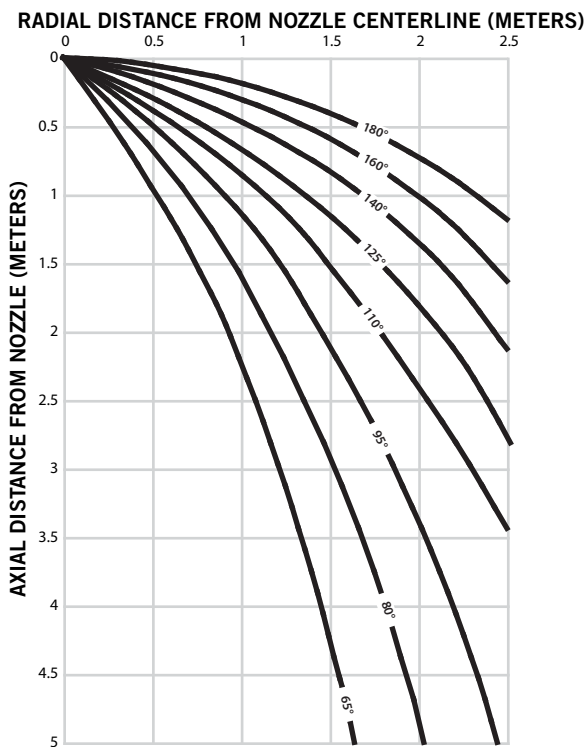
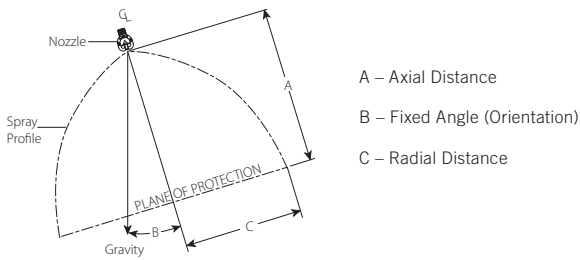

Figure 2 - Design Spray Profiles (All K Factors)
Figure 3 - Spray Coverage Variables
- Figure 2 illustrates the radial distance at various heights based upon testing in the pendent position at 10 psi, 20 psi, and 60 psi / 69 kPa, 138 kPa, and 414 kPa discharge pressure (see Figure 3, Variable C).
- For FM only installations, use a recommended tolerance of +/- 2 ft [0.6 m] from nominal for the radial distances shown (x-axis) in Figure 2 for all fixed angle orientations. Use a recommended spray profile angle tolerance of +/- 5° in the pendent position (vertically downward) and +/- 10° in all other fixed angle orientations.
- For UL/NFPA only installations, use a recommended tolerance of +/- 15% from nominal for the radial distances shown (x-axis) in Figure 2 for all fixed angle orientations.